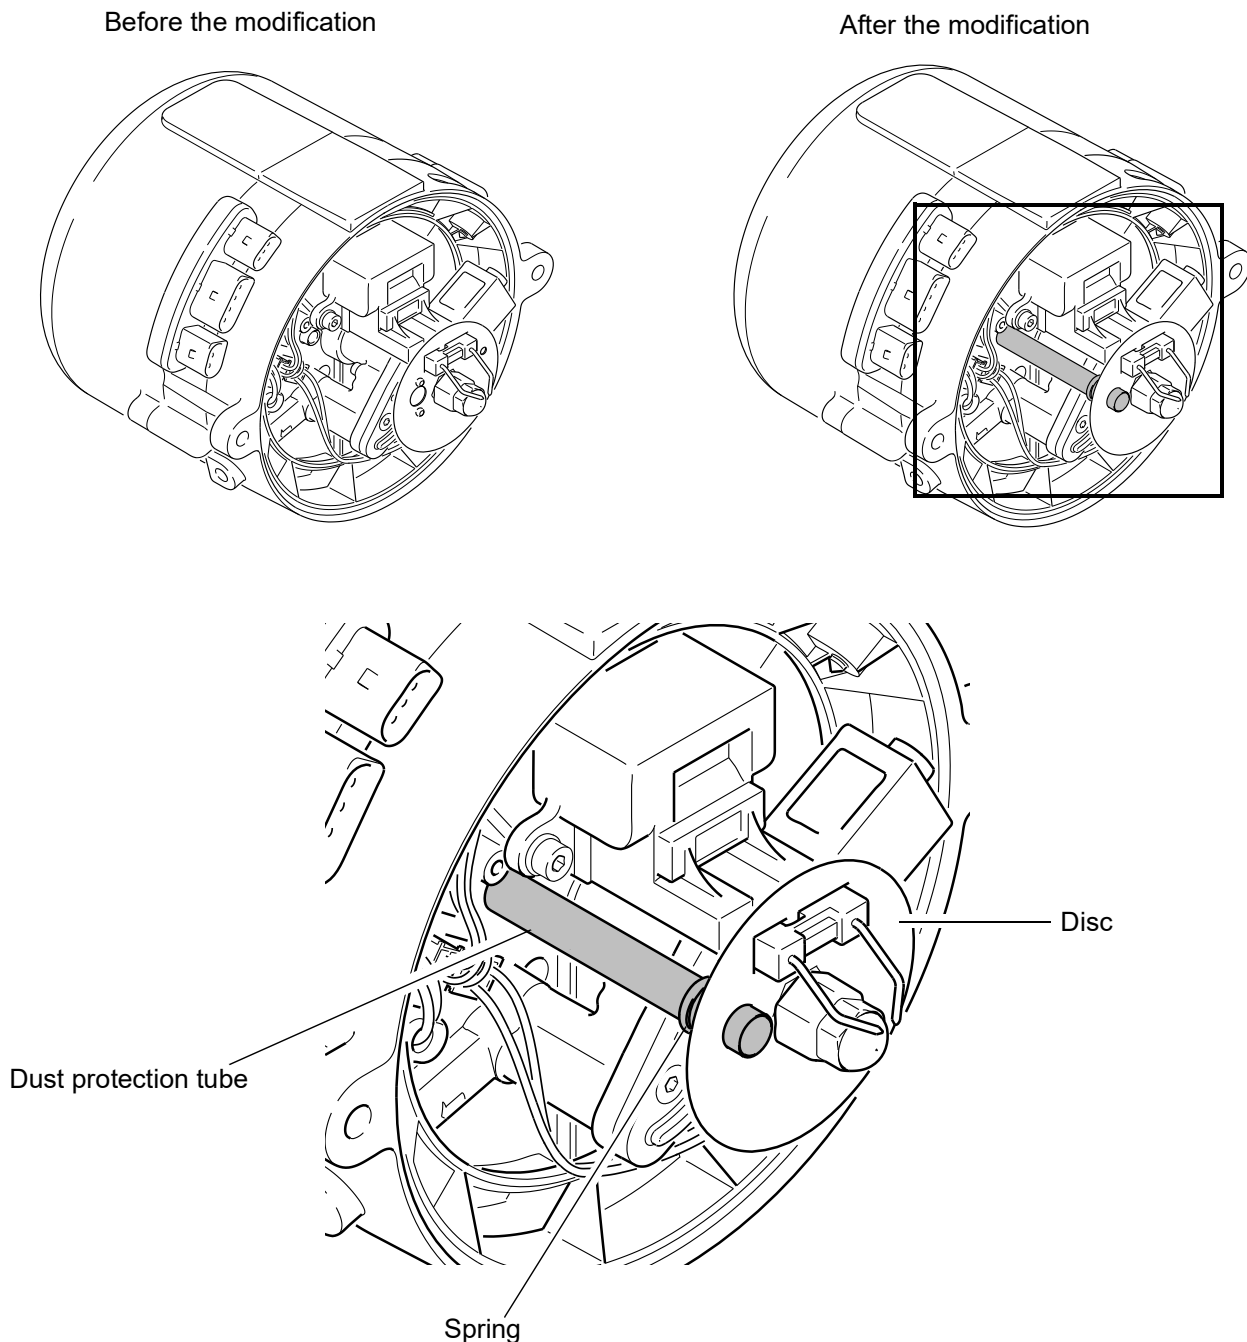
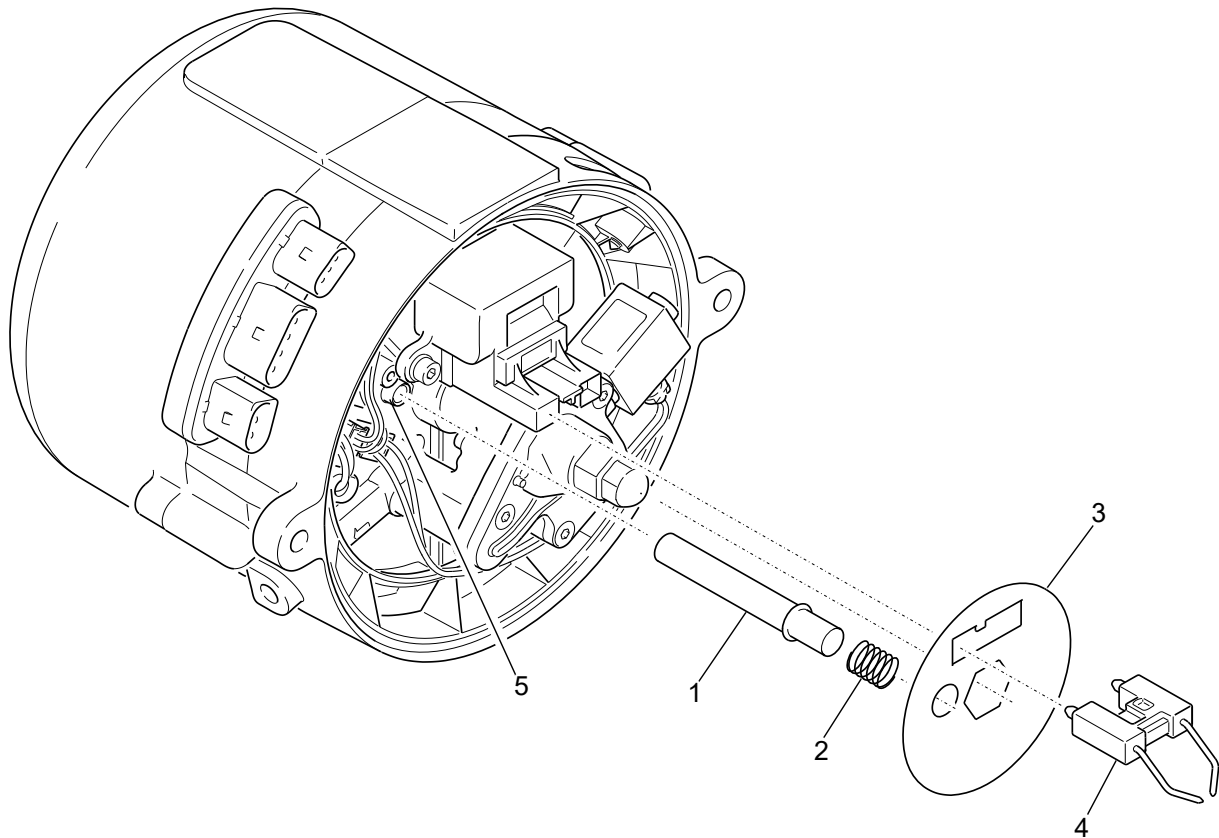

Fig. 901 Flame guard dust protection
Fig. 902 Flame guard dust protection - Installation
The flame guard can be retrofitted with a dust protection. This increases the reliability of its function and reduces maintenance. The dust protection consists of 3 parts (see Fig. 901/ Fig. 902): dust protection tube (1), spring (2) and disc (3).
2. Remove ignition electrodes (4, Fig. 902), refer to 8.6.
4. Remove disc (3) and discard it.
5. Pre-assemble new disc (3), tube (1) and spring (2).
6. Place new disc (3), tube (1) and spring (1) into position: